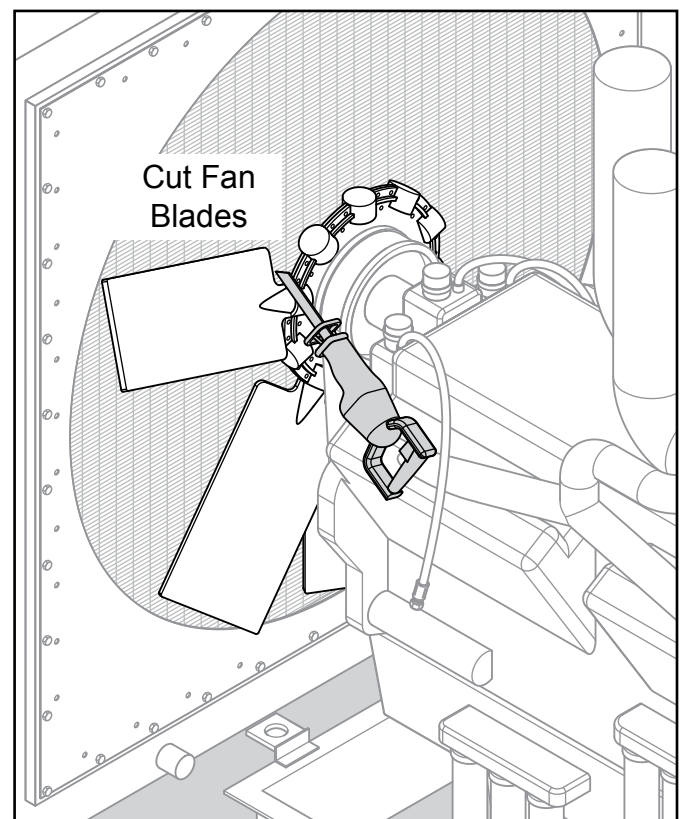

Figure 7. Cutting the Fan Blades
1. Cut the top blades of the fan with a reciprocating saw as close to the hub as possible to facilitate the removal of the fan. The three lower blades can be left on. See Figure 7.